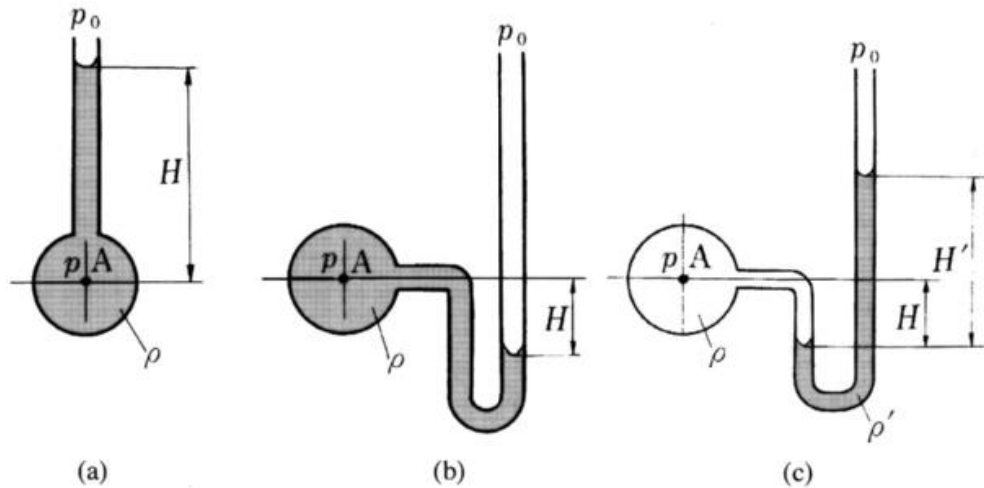

Fig. 3.22
2. Obtain the pressure  $p$  at point A in Figs 3.22(a), (b) and (c).